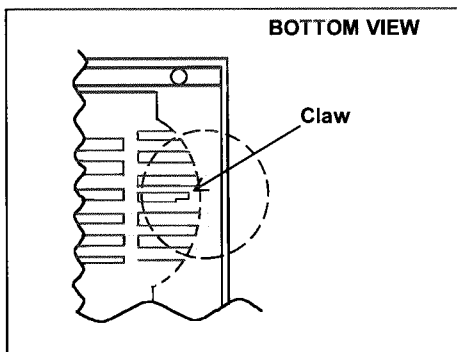

Fig. 1
- 1. Remove the claw securing the speaker under the front cabinet and pull out the speaker (Fig.1).